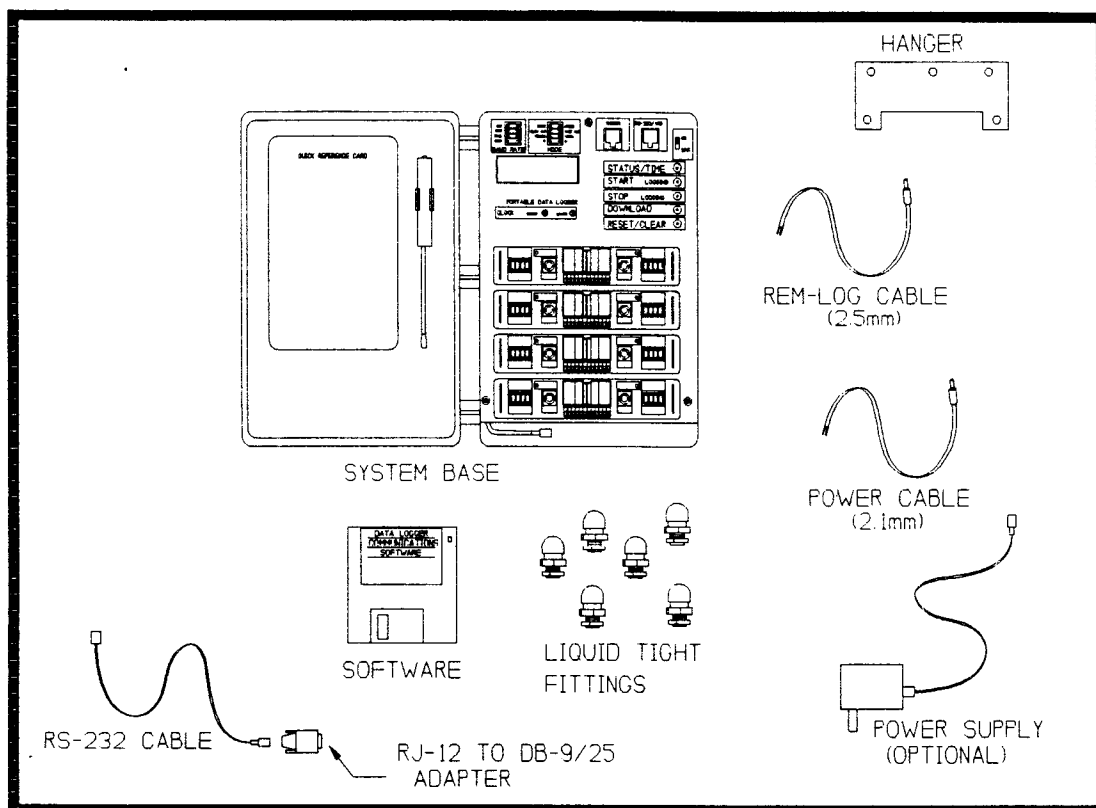

FIGURE 2.1: OM-220 SYSTEM COMPONENTS
2.1 EQUIPMENT CHECKLIST (REF FIG 2.1)